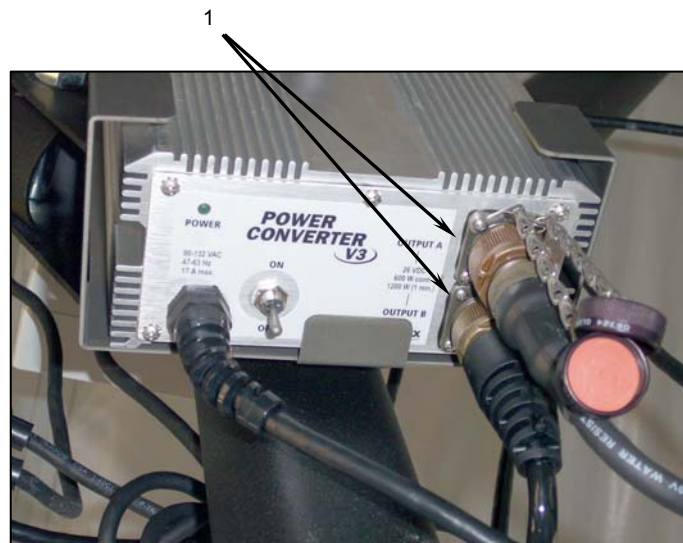

Figure 33. Disconnect Power Cables from Power Converter.
- a. If not already done, disconnect the grease separator power cord (**Figure 33, Item 1**) and the 25-ft DC power cable (**Figure 33, Item 1**) from the power converter and cap the power converter connectors.